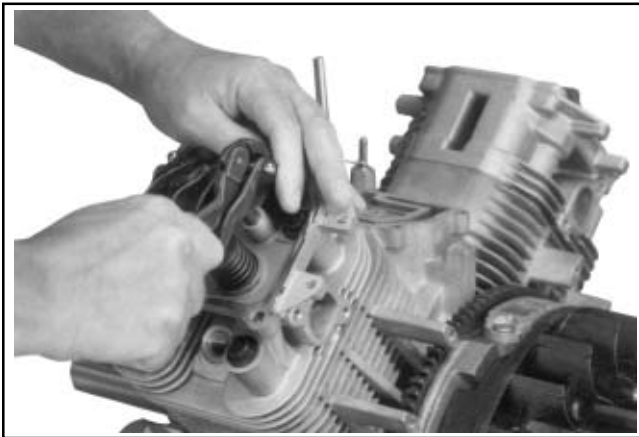

Figure 11-47. Using Spanner Wrench to Lift Rocker Arm Over Push Rod.
4. Use a spanner wrench or rocker arm lifting tool (see Section 2), to lift the rocker arms and position the push rods underneath. See Figure 11-47.